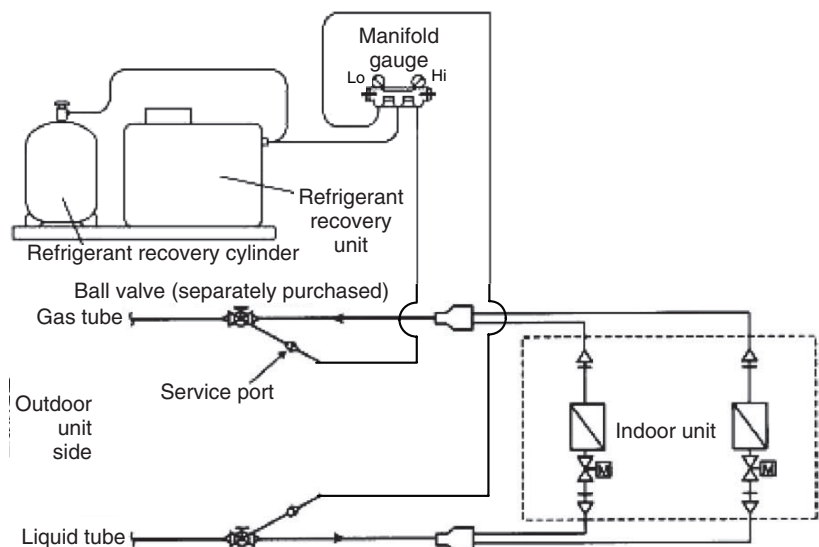

Fig. 4
- (1) If a ball valve with a service port has been provided in the indoor unit as shown in Fig. 4, follow the instructions given in (2) through (6) below. If the service port is instead located in the outdoor side, follow the instructions in "4-2-3. Refrigerant recovery procedures (2)."
- (2) After running the unit in Cooling mode for about 5 minutes as described in "4-2-1. Cooling operation (for all units)," fully close the liquid tube ball valve.
- (3) Run the unit in Cooling mode for 10 to 20 minutes more.
- (4) Fully close the gas tube ball valve, and stop the operation of all units.
- (5) Use hoses to connect the manifold gauge valves, refrigerant recovery unit, and refrigerant recovery cylinder with each other. (Fig. 4) Do each connection quickly to prevent air from entering the tubing.